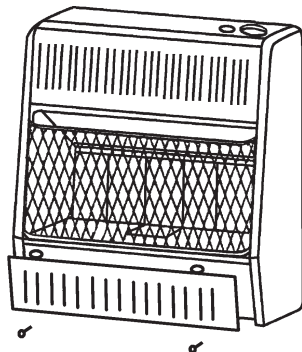

Figure 6 - Removing Lower Front Panel Of Heater
2. Pull bottom of lower front panel forward, then down (see Figure 6).